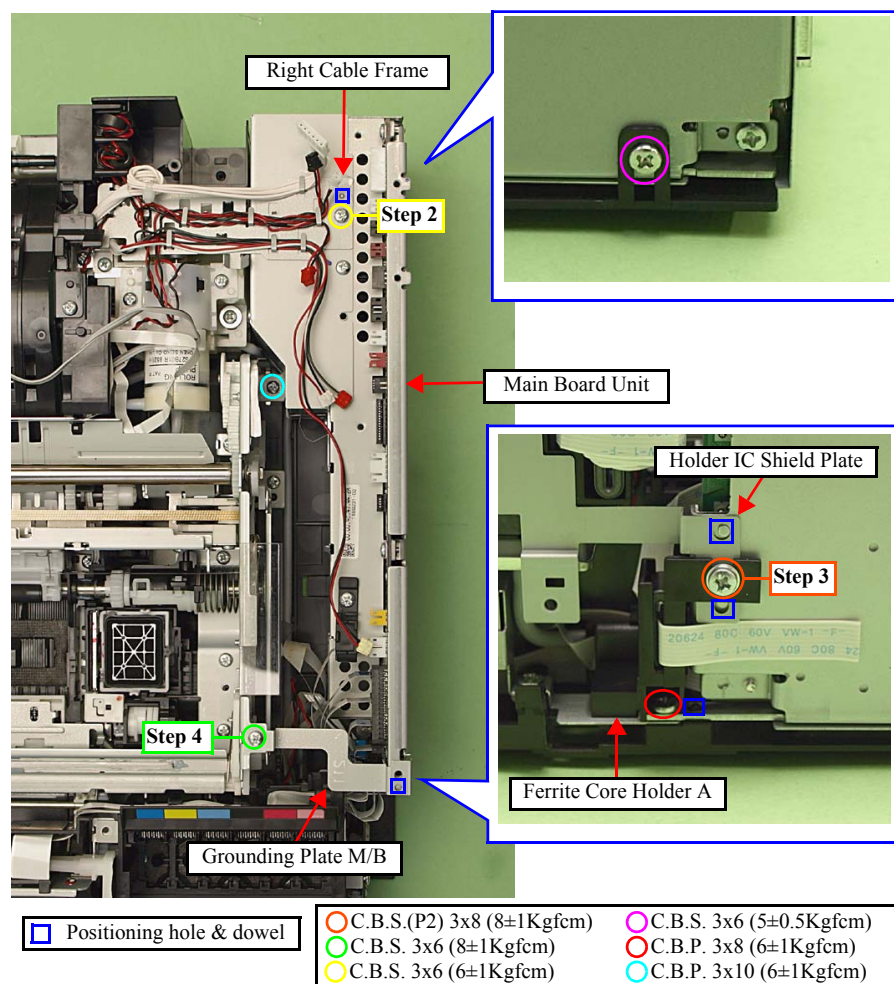
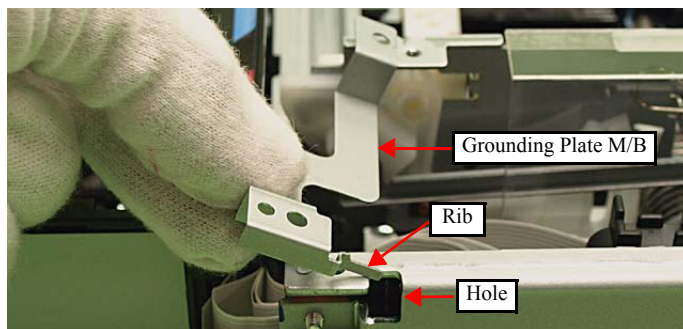

Figure 4-40. Removing the Main Board Unit
Figure 4-46. Attaching the Grounding Plate M/B
2. Remove the screw (x1) that secures the Right Cable Frame and the Main Board. (See Fig. 4-40.)
3. Remove the screw (x1) that secures the Ferrite Core Holder A, and remove the Ferrite Core Holder A. (See Fig. 4-40.)
4. Remove the screw (x1) that secures the Grounding Plate M/B, and remove the Grounding Plate M/B. (See Fig. 4-40.)
- Align the positioning hole (x1) of the Main Board with the dowel (x1) of the Upper Shield Plate M/B. (See Fig. 4-40.)
2. Secure the Ferrite Core Holder A and the Holder IC Shield Plate to the Main Board Unit with the screw. (See Fig. 4-40.)
- Align the dowel (x1) of the Main Board Unit with the positioning hole (x1) of the Right Cable Frame. (See Fig. 4-40.)
- Insert the rib (x1) of the Grounding Plate M/B to the hole of the Main Board Unit, and align the positioning hole (x1) of the Grounding Plate M/B with the dowel (x1) of the Main Board Unit, and attach the Grounding Plate M/B. (See Fig. 4-40, Fig. 4-46.)